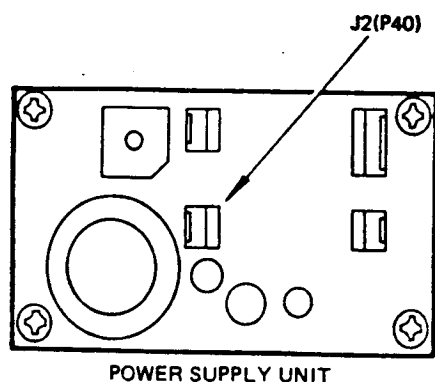

Figure 2-4
8. Insert plug P₄₀ into Jack J₂ as shown in Figure 2-4.